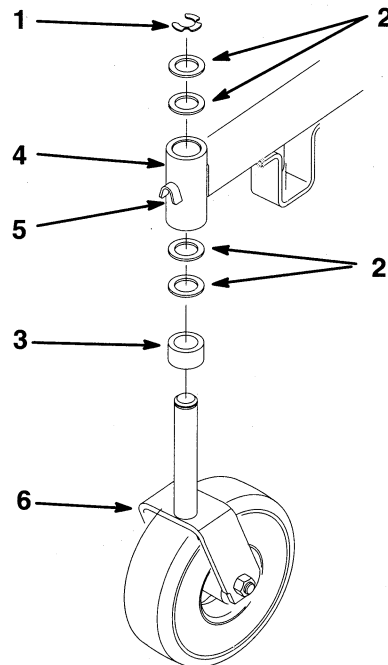

Figure 2
1. Place spacer and (2) thrust washers on shaft and slide the castor wheel into the mounting tube (Fig. 2).
2. Place (2) thrust washers on top of the fork and secure with retaining ring (Fig. 2).